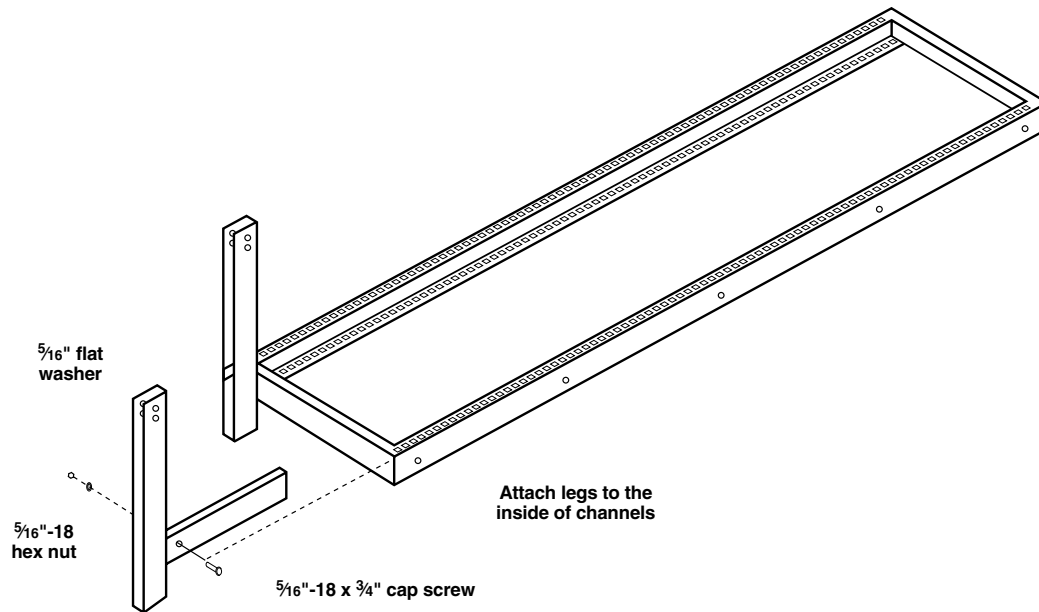

Figure 3-1. Attaching the legs with the included hardware.
1. Attach the legs to the inside of the rack leg channels using $\frac{5}{16}$ "-18 x $\frac{3}{4}$ " cap screws, $\frac{5}{16}$ " flat washers, and $\frac{5}{16}$ "-18 hex nuts. See Figure 3-1.